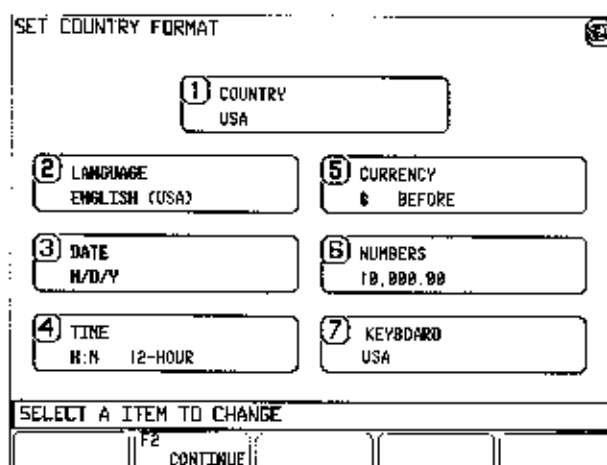

Figure 5-3
2. The "Set Country Format" screen appears (see Figure 5-3). The current settings are displayed on the screen.